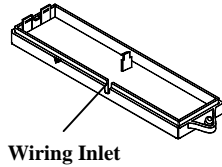
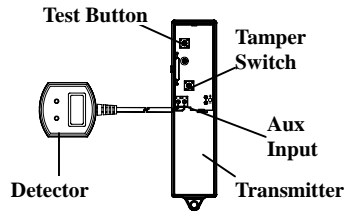

Fig. 1
Fig. 2
1. Loosen the screw of the radio transmitter TX-3GS, and open the cover. Use a pair of pliers or cutter to break the plastic of wiring inlet (Fig. 1). Then connect the detector to the AUX Input Terminals of the transmitter PC Board and insert two AAA alkaline batteries. Refer to Fig. 2.